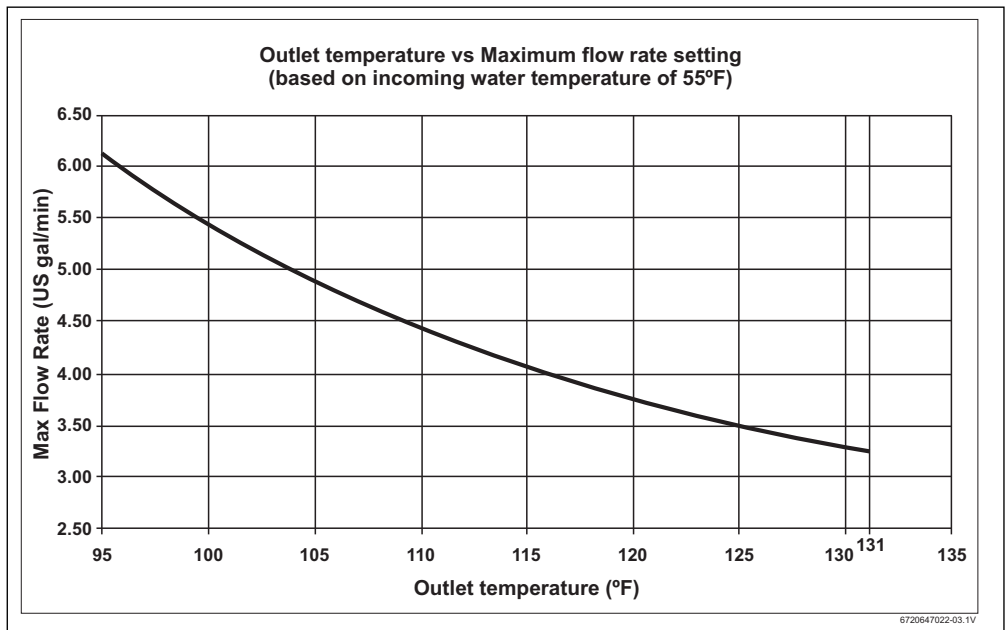

Fig. 8
- ▶ If the water temperature is not hot enough, adjust the outlet shut-off valve until the temperature is acceptable. Use Fig. 8 below for reference if you know your maximum flow.
These figures are based on an inlet water temperature of 55 °F and a supply voltage of 240 volts. If the inlet water temperature is lower than 55 °F, or if the supply voltage is less than 240 volts, then the flow rate for the shown temperatures will be reduced shown in Fig. 8. If a higher outlet water temperature is desired, then reduce the flow rate and/or supply the unit with 240 volts.
The inlet water temperature is too cold	Verify the heater is sized appropriately for it's geographic location. Turn temperature knob located on the bottom of the water all the way clockwise for maximum temperature setting. Ensure flow rates are within the heater's specifications. Refer to Fig. 8 on page 13 of the manual. Use of an isolation valve on the hot water outlet to control flow rate is recommended.
Temperature dial is turned too low	Turn the temperature dial located on the bottom of the water heater clockwise for hotter temperatures. Refer to Fig. 8 for outlet temperature vs. flow rate variance.
Water flow is too high	Adjust water flow to stay within the water heater's specifications. See Fig. 8 of this manual.
Outlet shut-off valves are set too low	Adjust installer supplied outlet valve as described below: <ul style="list-style-type: none"> • Completely open both installer supplied inlet and outlet shut-off valves at the heater. (if none installed, install before proceeding). • Completely open hot water on the highest flowing hot water fixture served by the heater (i.e. bathtub). • Slowly close the outlet shut-off valve, slowing the water flow rate until the temperature at the hot water faucet corresponds to the values given on Fig. 8 of the manual, or desired water temperature is reached.
Changing flow rate. Water supply connected to the outlet of the unit.	Major changes in flow rate can adversely affect the output water temperature of the heater. Increases from one major fixture running to multiple fixtures running at one time can cause the temperature to fluctuate. Stay within the heater's specifications. See Fig. 8.